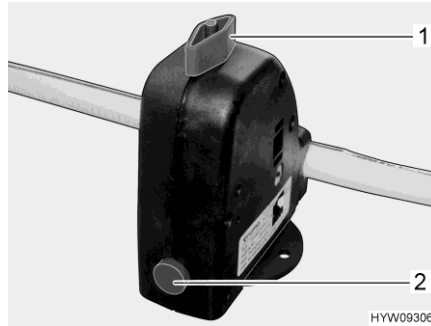

Fig. 75 Safety/drainage valve
The boiler is equipped with a safety/drainage valve (Fig. 75). The safety/drainage valve prevents water in the boiler from freezing, when there is frost and the heater is not switched on.
- Close the safety/drainage valve. Turn the knob (Fig. 75,1) perpendicular to the safety/drainage valve and push the push button (Fig. 75,2) in.
- Open the safety/drainage valve. To do this turn the knob (Fig. 75,1) parallel to the safety/drainage valve. The push button (Fig. 75,2) jumps out. The boiler is drained to the outside by the safety/drainage valve.